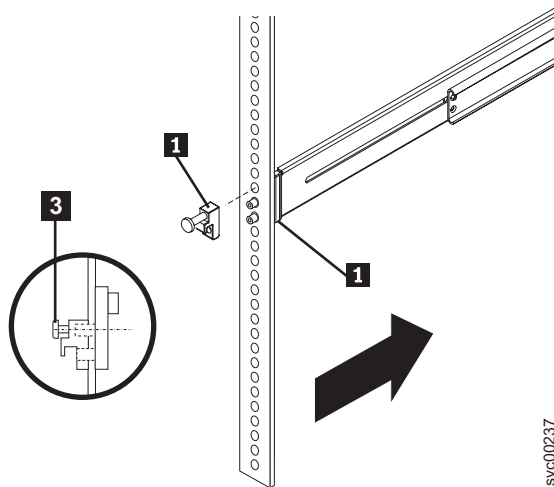

Figure 113. Removing the latch strike from the front of the slide rail
1. Loosen and remove the captive screw **3** and latch strike **1** from the left rear mounting flange, as shown in Figure 113 on page 448, to release the slide rail **2**. Loosen and remove the captive screw from the right rear mounting flange and release the other slide rail in the same way.